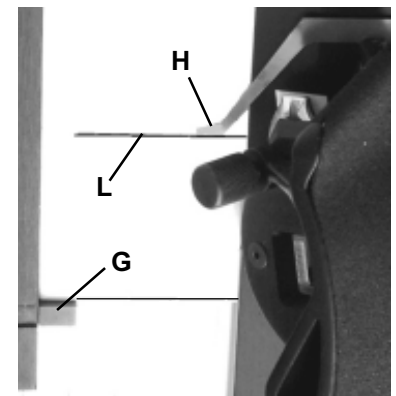

Figure 7
5. Make the cut, stopping when the **Sight Gauge (H)** reaches the lower pencil line (L). This is the end of cut and is shown in Figure 7.